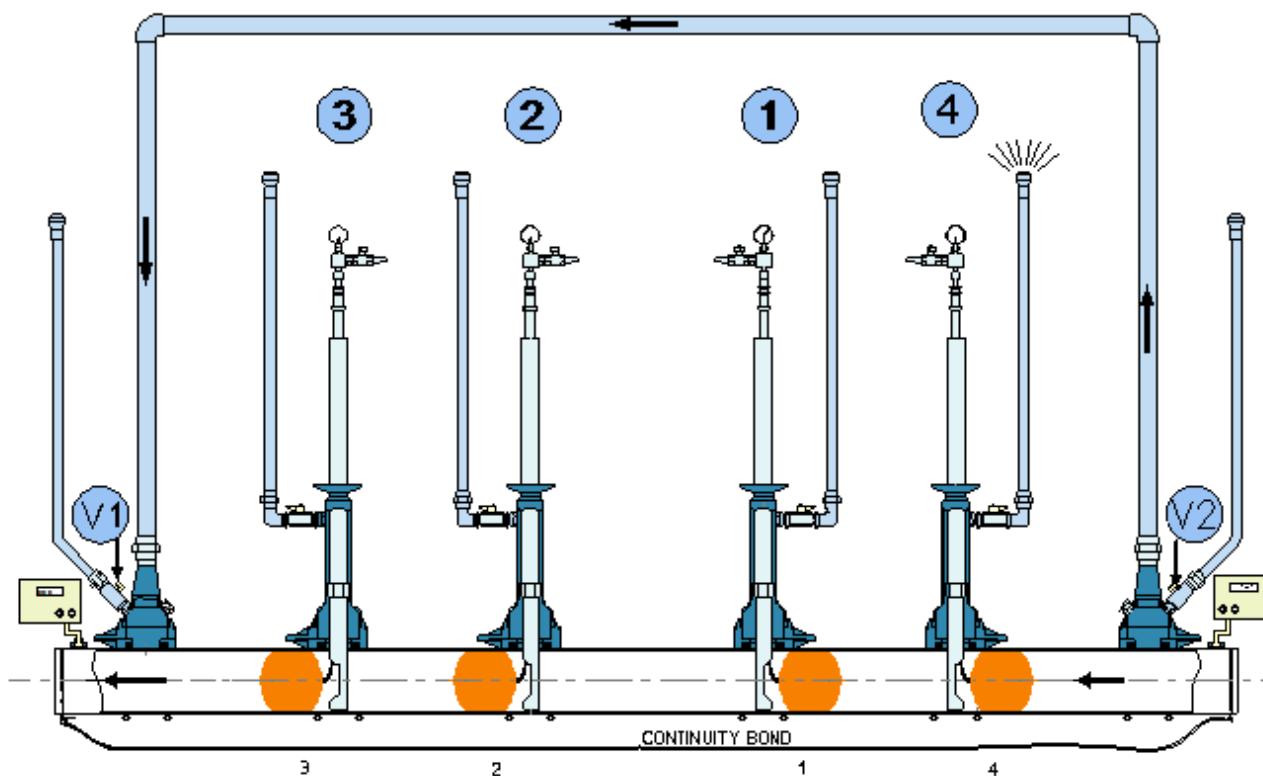

Figure 65- Installation of Bags 3 & 4 (Downstream & Upstream Primary)
15. When the Competent Person, under the Safe Control of Operation Procedures is satisfied that the seal between bags 1 and 2 is acceptable, the operation should re-commence see Figure 65.